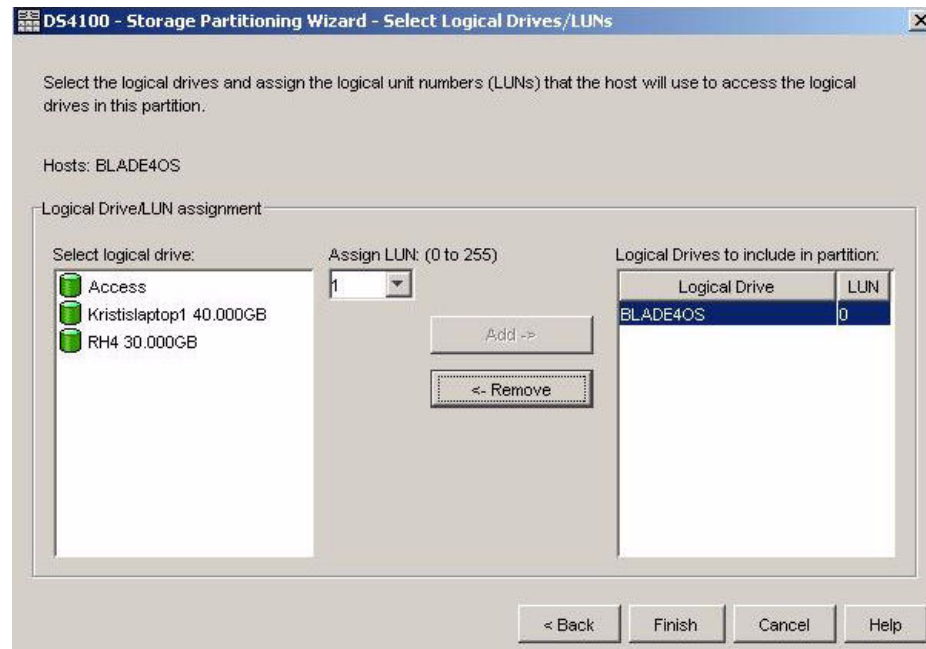

Figure 9-58 Storage Partitioning Wizard window
27. In the Logical Drive/LUN assignment view, select **BLADE4OS 10.000GB** as our logical drive. Assign LUN 0 and click **Add**. You will see a window similar to Figure 9-58. Listed in Table 9-3 are valid boot LUNs you may use.